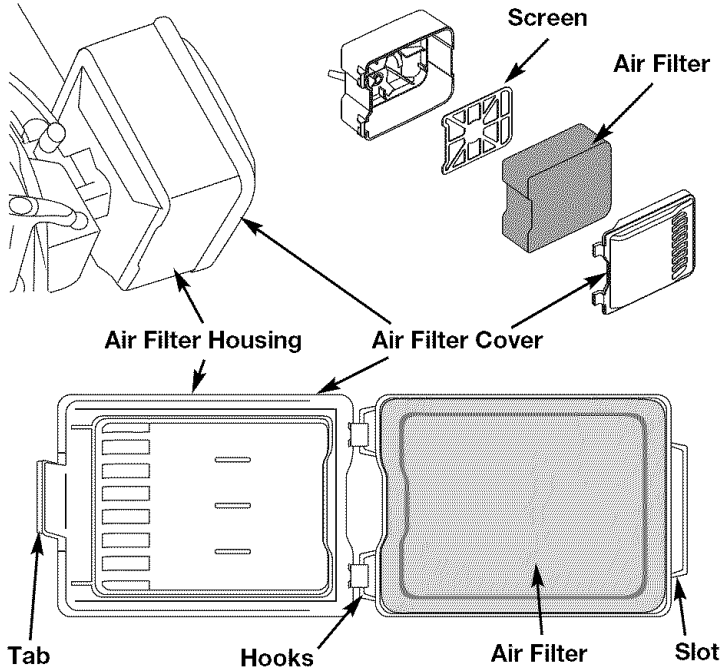

Fig. 25
1. Open the air filter cover. Push the tab on the left side of the cover in, then swing the air filter cover out and off of the air filter housing (Fig. 25).
2. Remove the air filter and the screen that sits behind it (Fig. 25).
6. Replace the filter (Fig. 25).
7. Reinstall the air filter cover. Position the tabs on the sides of the air filter cover onto the slots at the top of the back plate (Fig. 25).
8. Push the cover in until the tab on the air filter backplate snaps into place in the slot on the air filter cover (Fig. 25).